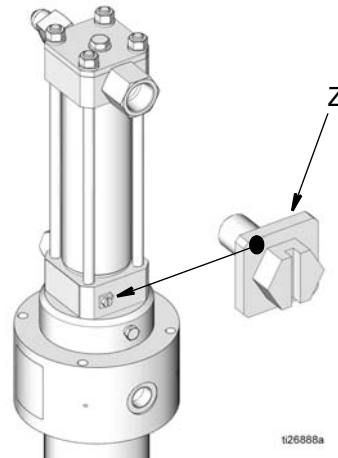

FIG. 1
Fluid-filled Pressure Gauge (M), Part No. 112567: monitors hydraulic pressure to the reciprocator during startup. See FIG. 1. Use the gauge for initial adjustment of the reciprocator. It can be removed after adjustment.
- **Pump:** Use ground wire and clamp as shown in FIG. 1. Order Grounding Wire and Clamp Kit, Part No. 222011.
Grounding the Pump (FIG. 1)